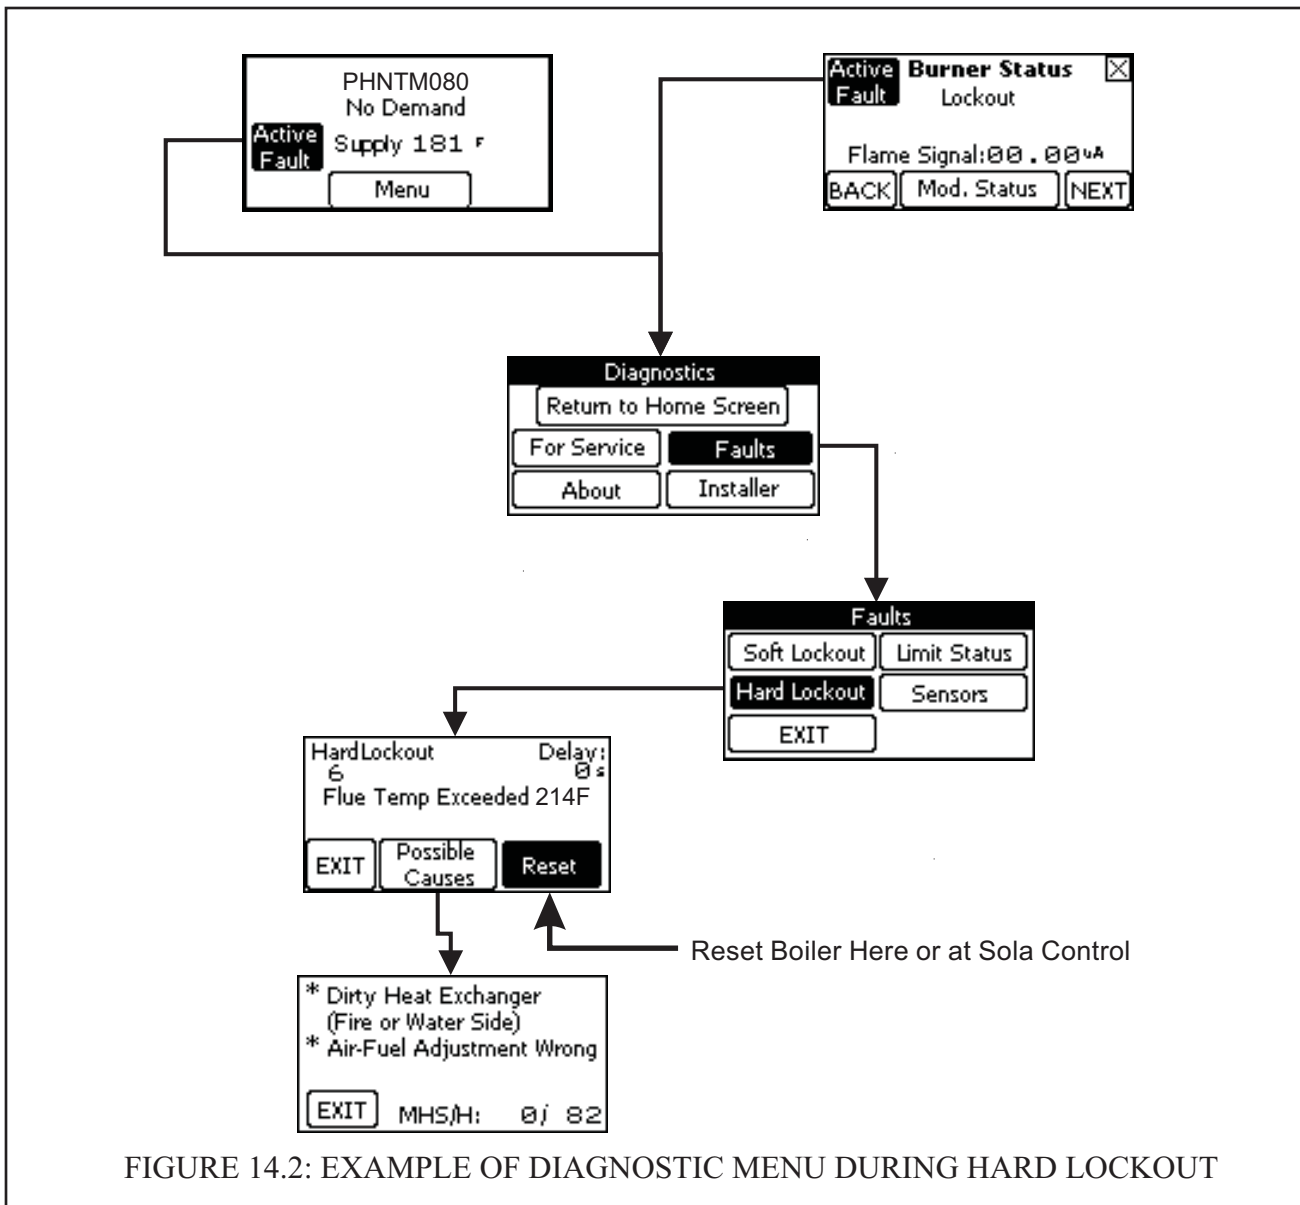

FIGURE 14.2: EXAMPLE OF DIAGNOSTIC MENU DURING HARD LOCKOUT
- b) **Hard Lockout** - A hard lockout prevents the boiler from firing until the problem has been corrected AND the boiler has been manually reset. This can either be done at the boiler control itself or on the hard lockout screen. An example of the Fault Menu structure during a hard lockout is shown in Figure 14.2